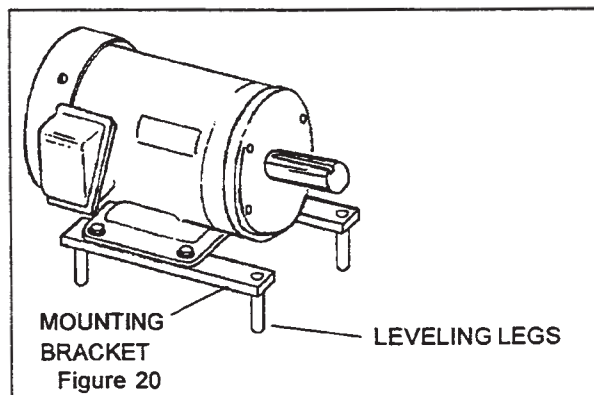

Figure 20
- Remove the bolts securing the motor to the mounting brackets. Bolt the new motor to the mounting brackets. (Figure 20)